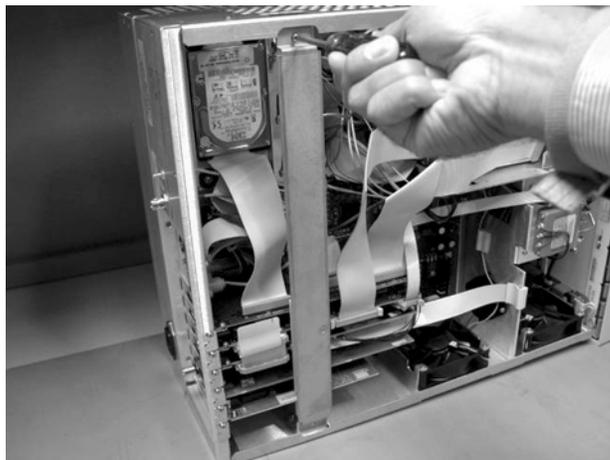

Figure 4-35. Removing the Bar (86100A only)
- 3 Use a T-10 TORX driver to remove the two screws that secure the bar to the mainframe, as shown in Figure 4-35.